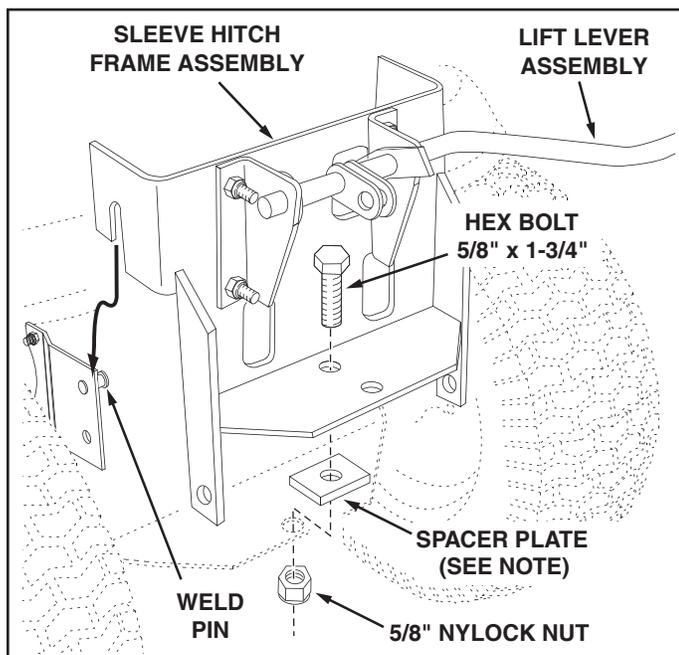

FIGURE 4
- Hook the Sleeve Hitch Frame Assembly onto the weld pins in the mounting brackets. Attach the bottom of the Assembly to the tractor hitch using a  $\frac{5}{8}$ " x 1-3/4" hex bolt and a  $\frac{5}{8}$ " nylock nut. See figure 4.